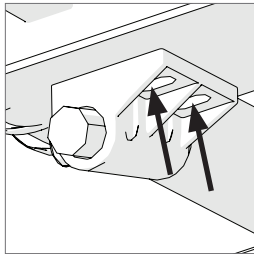

Fig. 9
- Slacken the two hex screws. **(Fig. 9)**